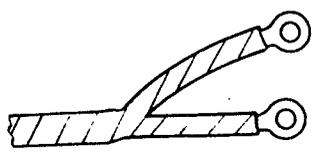

FIGURE 3
6. Install lugs on coax as shown in Figure 3 and weatherproof with electrical tape.